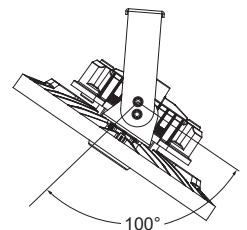

Figure 7
- Step 4. After installation, connect the wire of the fixture to the mains according to local wiring rules, ensure the connection is stable and make good protection on the connection. By adjusting the brackets screws, users can adjust 50° to the left or right vertically. (Figure 7)